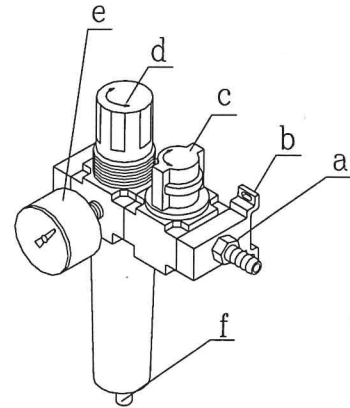

Figure 10
1. Connect compressed air to air inlet joint of filter, open the air start valve(Figure 10, c), pull the pressure adjustment knob (Figure 10, d) up and turn it counterclockwise to adjust the pressure making the pressure gauge(Figure 10, e) display at about 5 to 7 bar. Press the water discharge button (Figure 10, f) after a period time to discharge the accumulated water in the glass.